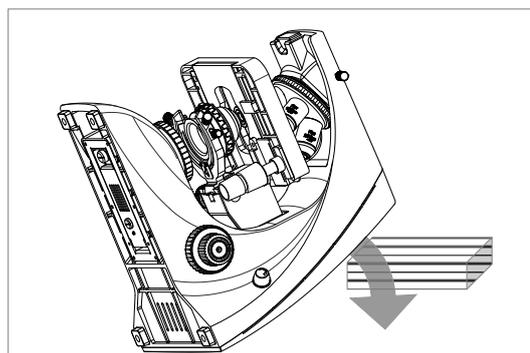

Fig.8-2
8.3.3. Putting down the main body backwards, keep stable. (For protection, it's better to take down the eyepiece and observing tube, placing foam or book under the main body. (Fig.8-2)